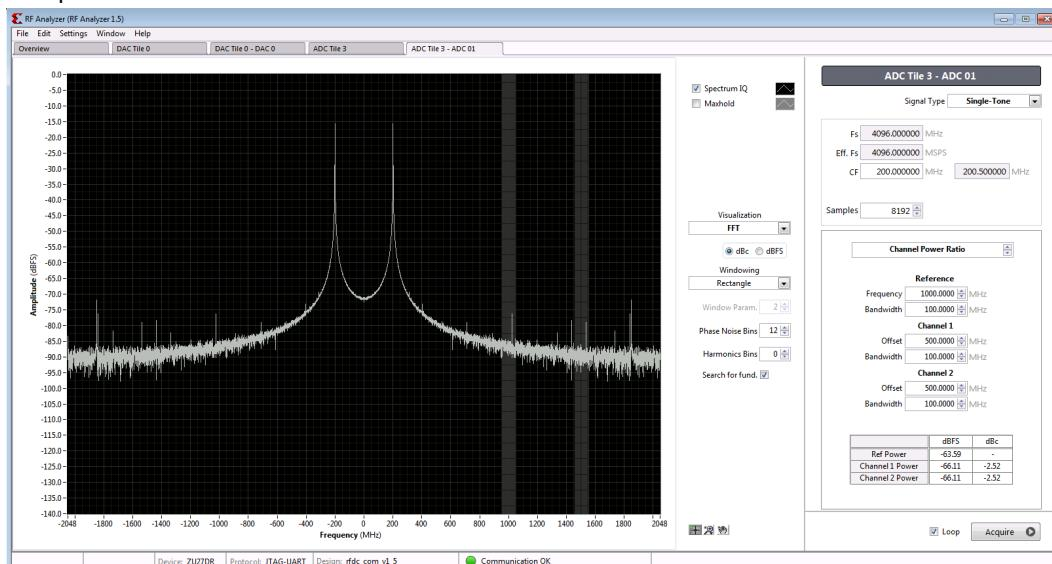

Figure 27. ADC signal acquisition
16. On the new interface, represented on Figure 27, enable “loop” and press “Acquire” to start the signal acquisition.